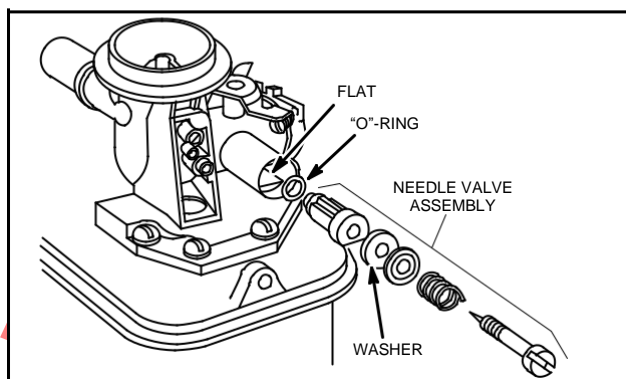

Fig. 227 - NEEDLE VALVE ASSEMBLY, PRESSED-IN-TYPE
**NOTE:** Some zinc carburetors use pressed-in needle valve assembly, Fig. 227. See next subject heading "To Remove Needle Valve Assembly - Pressed-in Type" for removal procedure.
4. Remove inner "O"-ring, Fig. 227.